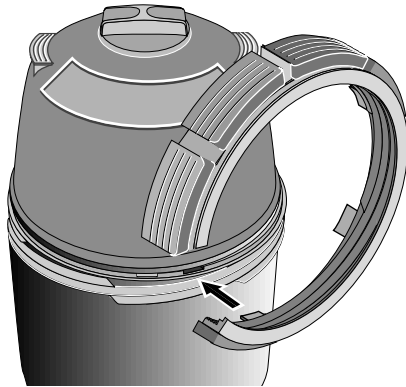

Figure 6 – Insert ring tab in slot in filter body.
6. Separate upper and lower tank shell halves using tabs on bottom of Posi-Lok™ ring. Insert tab into slot located at tank joint and twist ring to pry shell halves apart. See Figures 6 and 7.